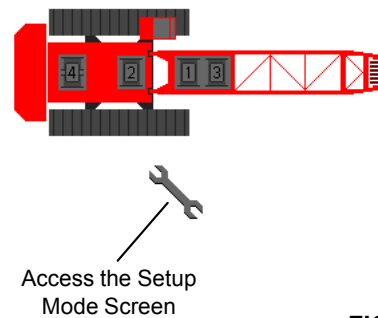

FIGURE 3-7
2. Scroll to and enter the setup mode screen (Figure 3-7).